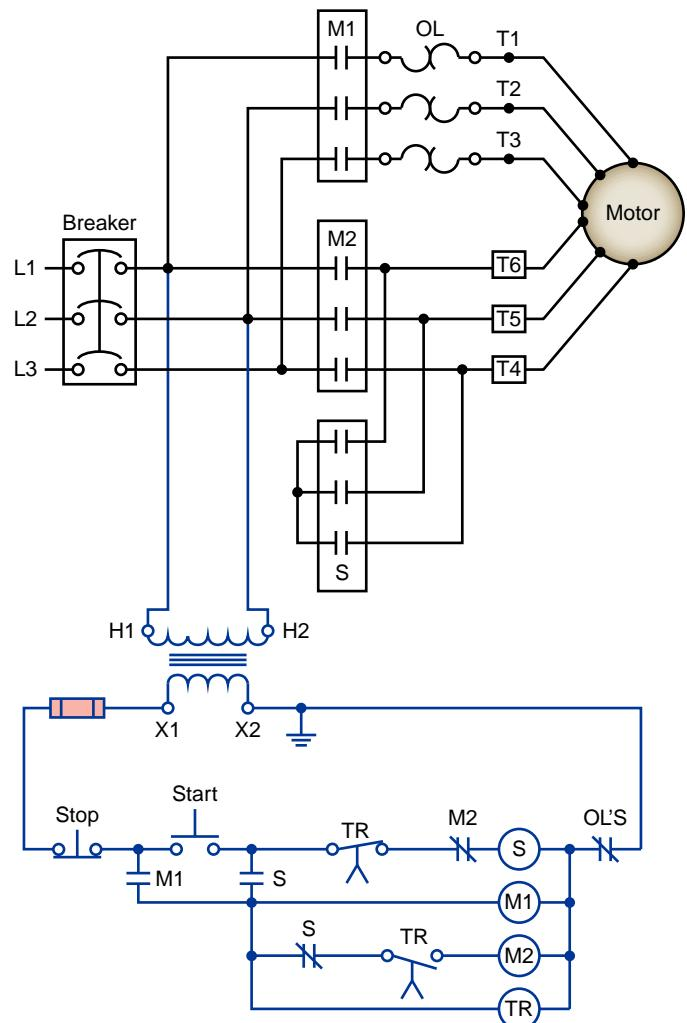

Figure 8-18 Wye-delta starter.
Figure 8-18 shows a typical wye-delta starting circuit. Transition from wye to delta is made using three contactors and a timer. The two contactors that are closed during run are often referred to as the main contactor (M_1) and the delta contactor (M_2). The third contactor (S) is the wye contactor and that carries wye current only while the motor is connected in wye. Operation of the circuit can be summarized as follows: